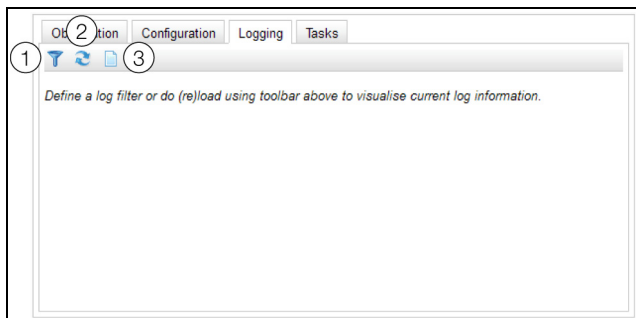

Fig. 39: "Logging" tab
- Click the first symbol from the left (fig. 39, pos. 1).
- Click the second symbol from the left (fig. 39, pos. 2).
- Click the third symbol from the left (fig. 39, pos. 3). All entries are cleared from the display and the same note as for the selection of the **Logging** tab appears.